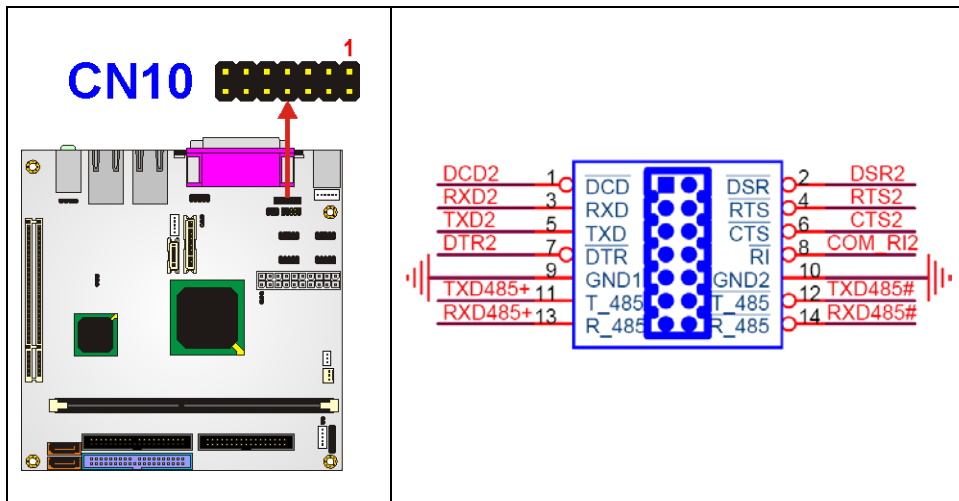

Figure 3-15: RS-232/422/485 Serial Port Connector Pinout Locations
- CN Location: See **Figure 3-15**